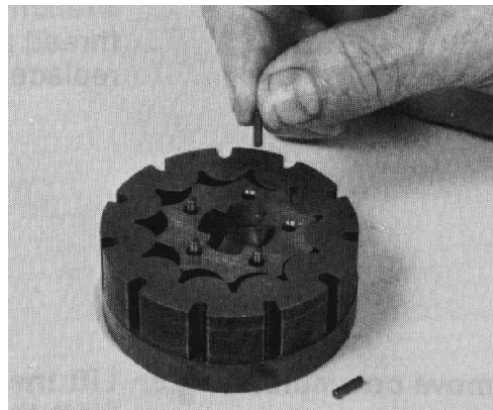

Figure 49
33. Remove the five alignment pins (Fig. 49).